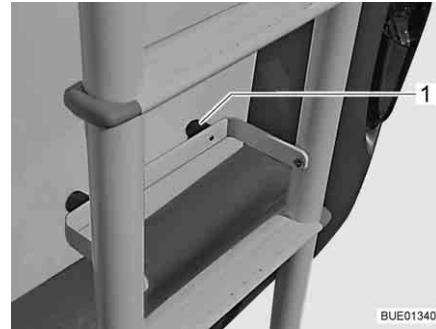

Fig. 2 Foldable ladder, ladder folded downwards
- Place guard rail with the rubber knobs (Fig. 2,1) up against the back panel of the vehicle.